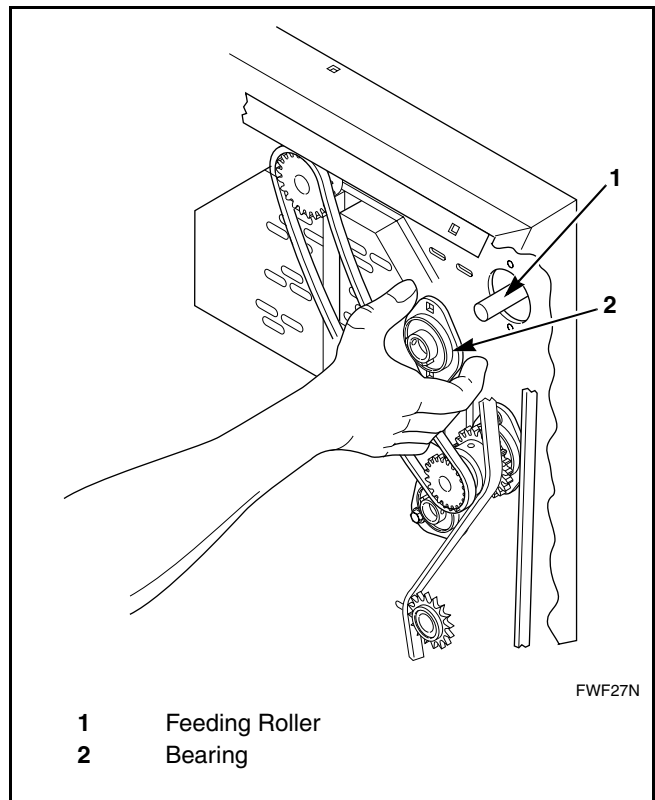

Figure 8
- g. Remove bearing by pressing left. Refer to *Figure 8*.